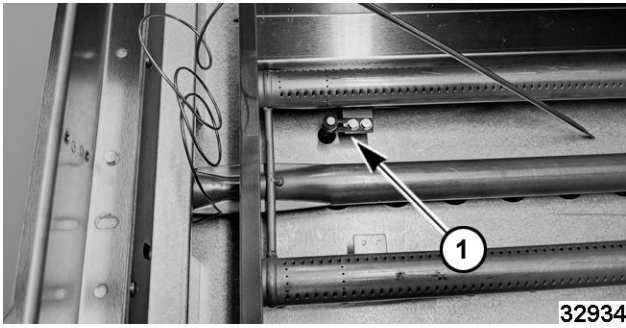

Fig. 115
4. Remove pilot (1, Fig. 115) from clip on burner.